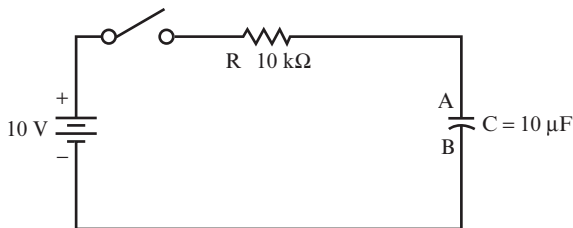

FIGURE 1.15
The capacitor shown in Figure 1.15 charges when the switch is closed.
- B. What is the time constant for the circuit shown in Figure 1.15? _____
- A. What is the voltage on plate A and plate B of the capacitor in Figure 1.15 before the switch is closed? _____